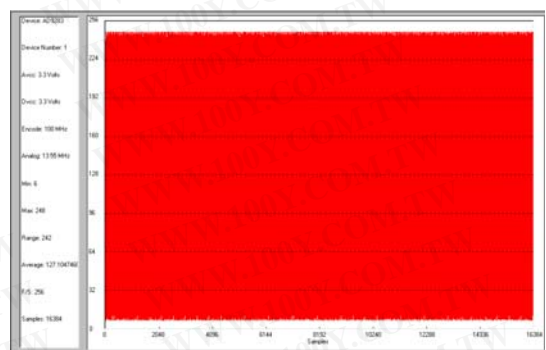

Figure 19. Typical Time Domain Plot
8. Use the Analyze > Bus Check option to ensure all data bits are switching. See Figure 19 for an example of the AD6645, 14-bit single channel ADC. Note: The left-most bit is the MSB.